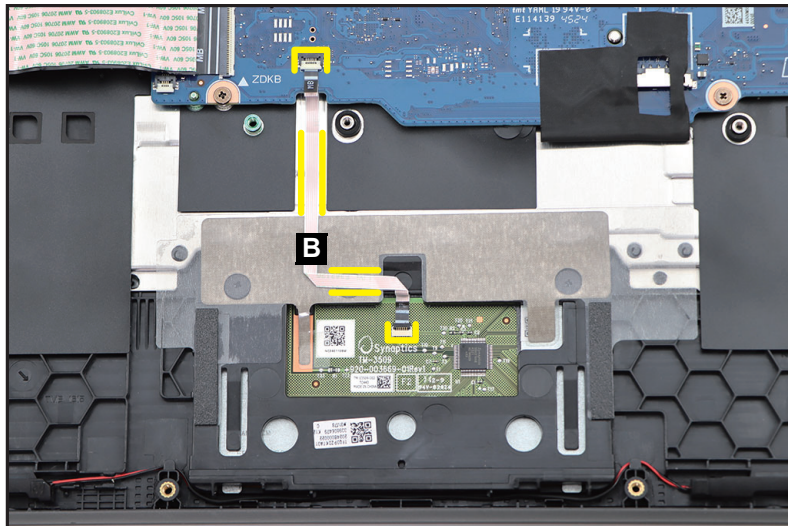

Figure 3-14. Touchpad Module Removal
2. Disconnect the touchpad FFC (B) from the touchpad module and mainboard connectors (Figure 3-14).
3. Carefully detach the touchpad FFC from its underneath adhesive (highlighted with the yellow lines) and remove the touchpad FFC (Figure 3-14).